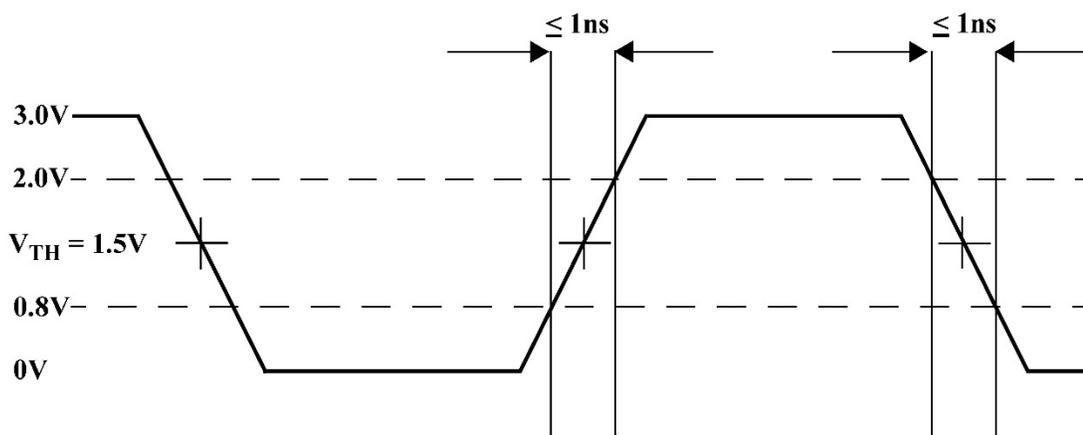

Figure 9. +3.3V LVTTTL Input Test Waveform
- 1) Reference Figure 11 for clock output loading circuit that is equivalent to the load circuit used for all AC testing. The input waveform used to test these parameters is shown in Figure 9.